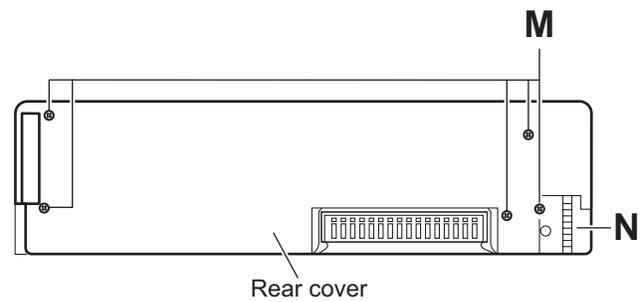

Fig.11
- Remove the five screws **M** and one screw **N** attaching the front panel assembly. (See Fig.11)